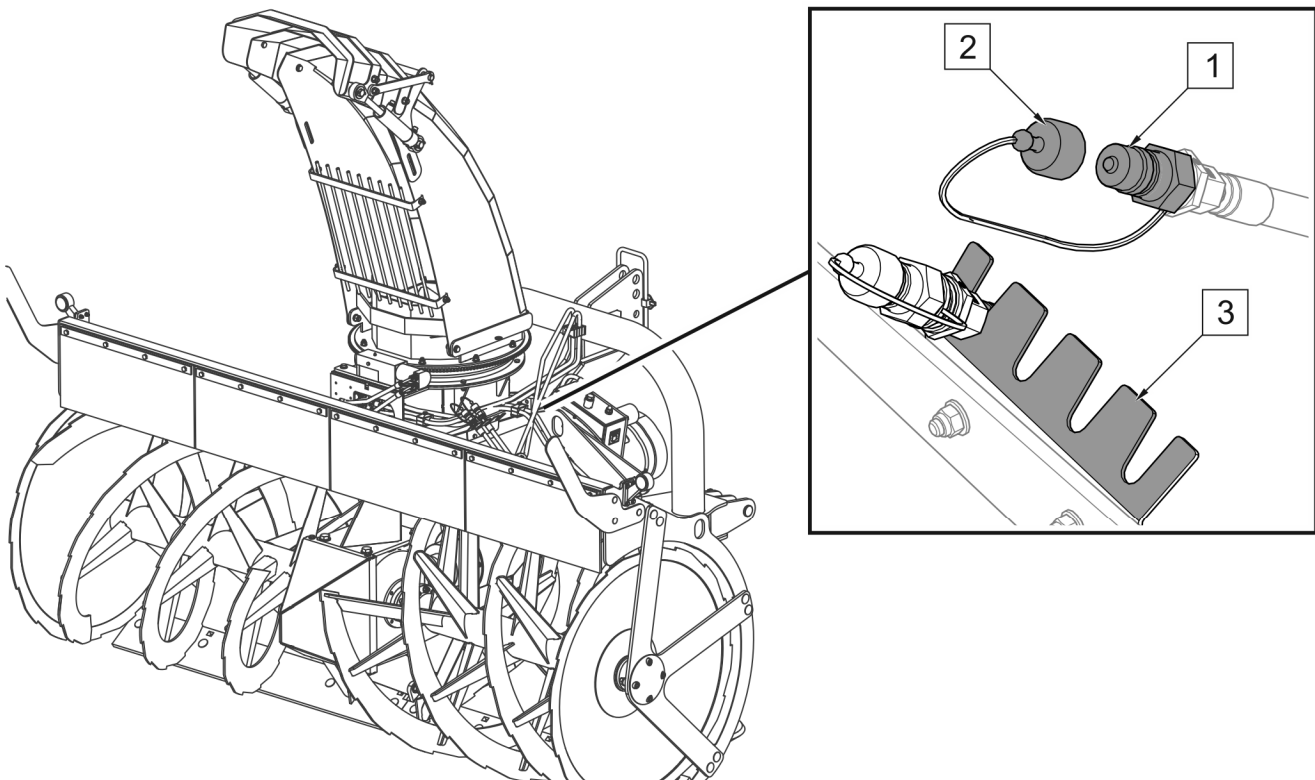

FIGURE 4.18 Protection of hydraulic conduit connectors (machine mounted on the front three point linkage)
- 4) Disconnect hydraulic conduit connectors, secure them with caps and put in special bracket on the snow blower frame (FIGURE 4.18).